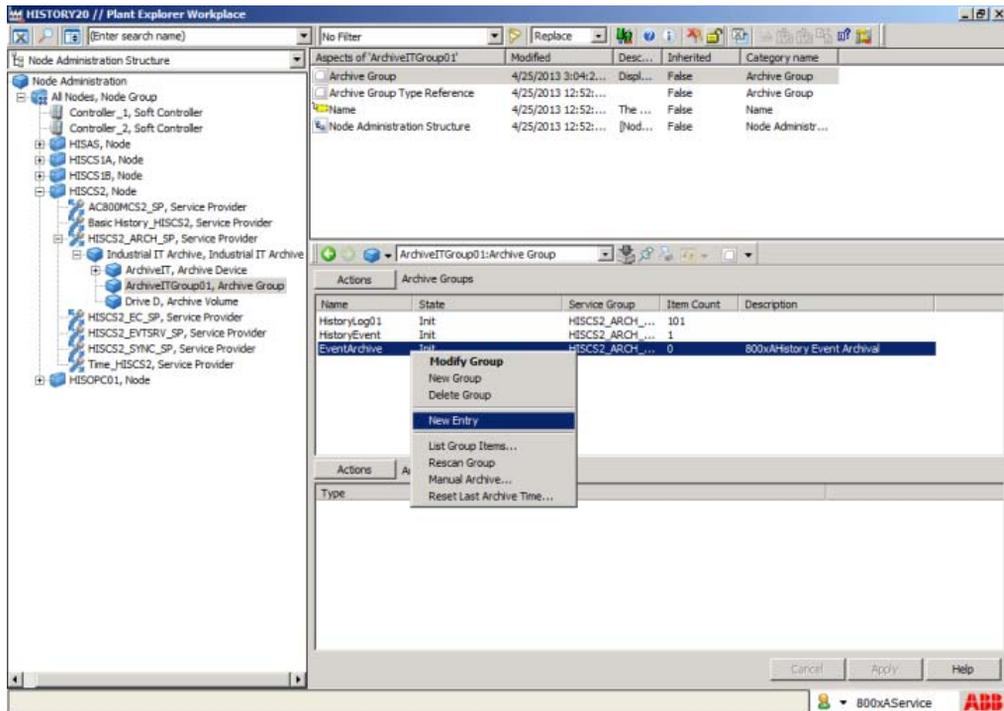

Figure 245. Selecting New Entry context menu option
1. After creating an archive group, right-click on the group and select **New Entry** as shown in Figure 245.